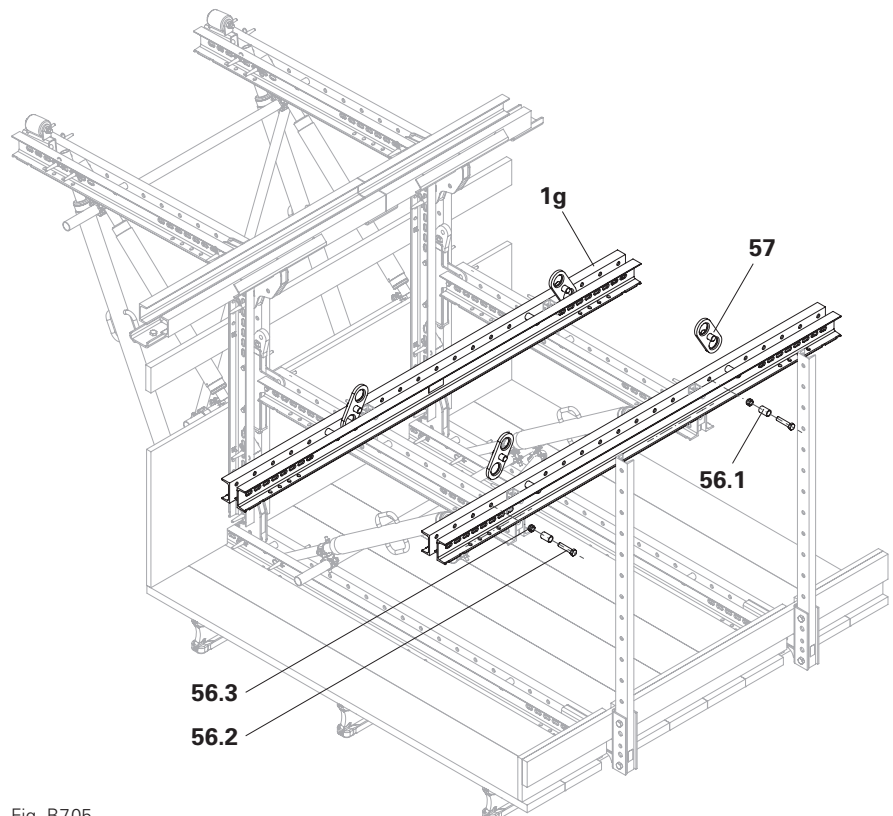

Fig. B7.05
3. Insert the sleeve (56.1) of the spacer for the Platform Beam BR (56) through the Lifting Eye BR-2 2.5 t (57).
4. Slide the Lifting Eye BR-2 2.5 t (57) and sleeve into the Steel Waler Universal SRU U120 (1g) and secure with the bolt (56.2) and nut (56.3).
- (Fig. B7.05)